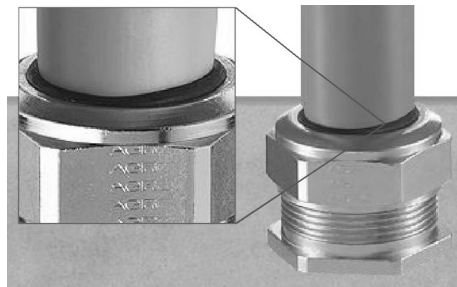

Figure 8: Gland tightening
- 4 Screw the cap nut onto reader part until the seal insert is pushed out of the gland. See Figure 8.